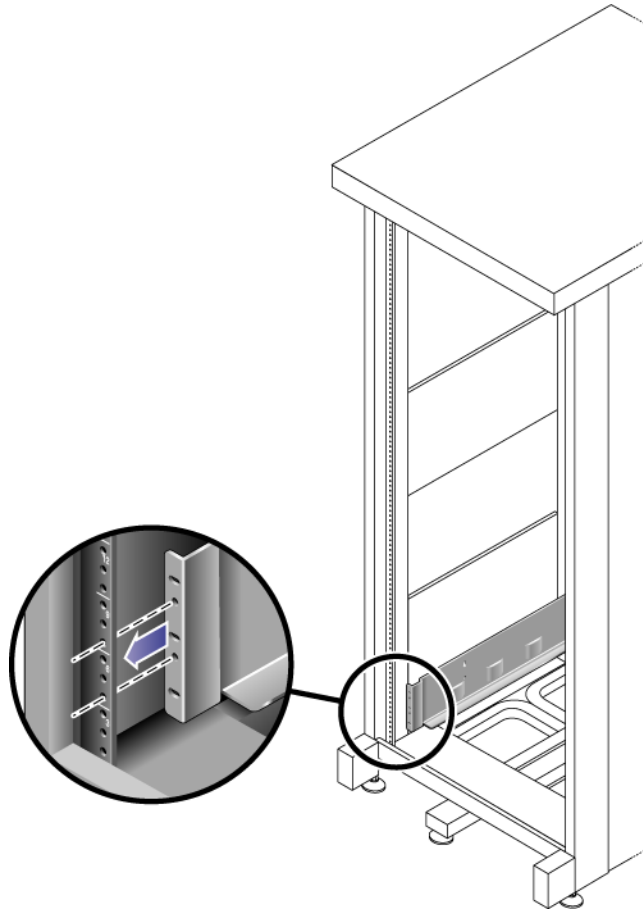

FIGURE 2-15 Positioning the Left Rail Behind the Left Front Cabinet Rail
- a. **Position the front of the rail directly inside the front cabinet rail** (FIGURE 2-15).